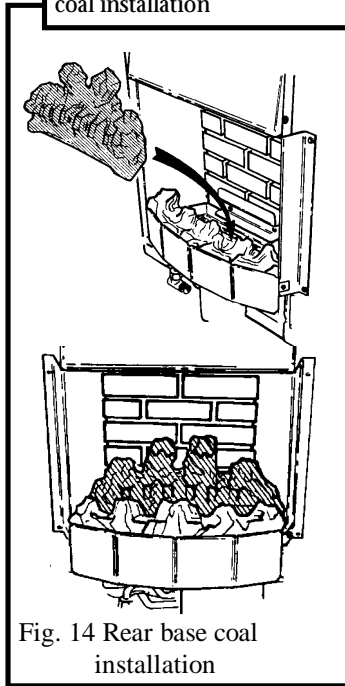

Fig. 14 Rear base coal installation
7.2 Place the rear base coal in the burner compartment behind the front coal. It should rest on the ledge at the back of the burner compartment and its rear face should touch the rear ceramic wall (See figure 14)